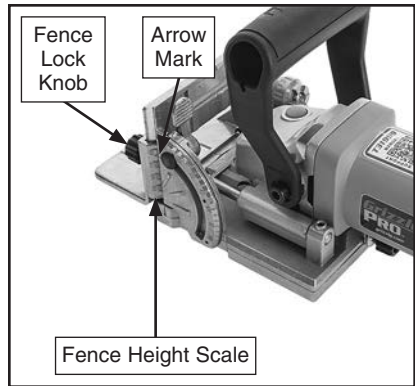

Figure 13. Location of cutting height adjustment components.
2. Loosen fence lock knob and move fence up or down on faceplate until arrow mark on angle scale aligns with desired height on fence height scale (see **Figure 13**).